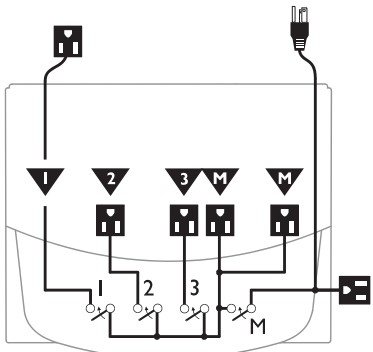

Figure 2 - Switch Wiring Diagram
- The PowerManager has four ON/OFF **power switches**. Each switch enables the user to control AC power to the equipment plugged in to the outlets inside of the PowerManager. The switches are made of conductive plastic to aid in discharging static electricity. The Master Power Switch, labeled “M” in Figure 2, allows the user to apply power to all of the interior outlets at the same time. When the Master Switch is on, switches labeled “1,” “2,” or “3” can be used to control their individual outlets. The Convenience Outlet (always on), located on the side of the unit, provides desktop access to AC power.